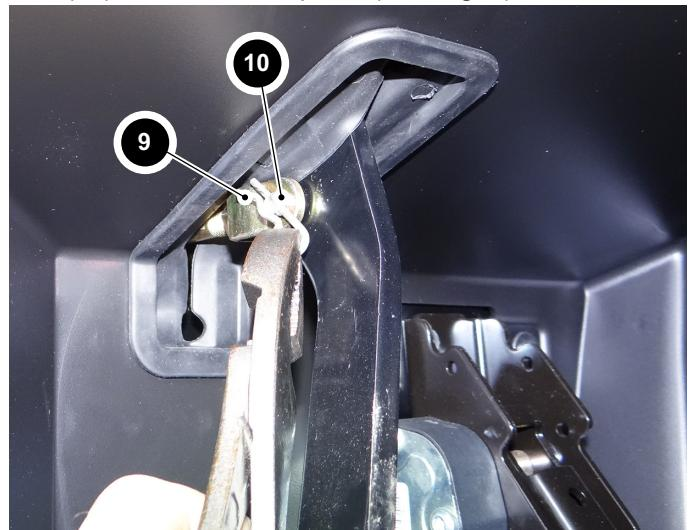

Fig. 9 Disconnect Brake Pedal
1. Disconnect the brake pedal from the master cylinder push-rod by removing cotter pin (9) and clevis pin (10) from the brake pedal (Ref. Fig. 9).